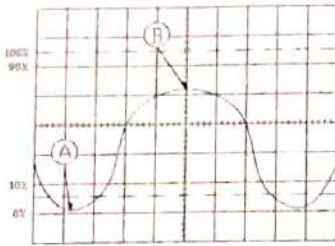

Fig. 5-3
- (1) Input the signal to CH1 or CH2 and set the selected channel to VERT.
- (2) Set the voltage attenuator and observe the waveform. Keep the displayed waveform to be about 5 DIV. Check the variable and rotate to CAL clockwise.
- (3) Adjust the level to keep the waveform stable (not necessary if the level is locked)
- (4) Adjust the sweep speed to keep at least one wave cycle to be displayed on the screen.
- (5) Adjust the vertical position to keep the wave bottom to be on a certain horizontal coordinate on the screen (shown as Point A in Fig. 5-3)
- (6) Adjust the horizontal position to keep the wave top to be on a certain horizontal coordinate in the center of the screen (shown as Point B in Fig. 5-3)
- (7) Read out the division numbers between Point A & B in vertical direction.
- (8) Work out the Vp-p of the measured signal using the following formula:
For example: in Fig. 5-3, the vertical division number between Point A & B is 4.2 DIV, the vertical deflection factor of 10:1 probe is 2V/DIV, so, $V_{p-p} = 2 \times 4.2 = 8.4V$